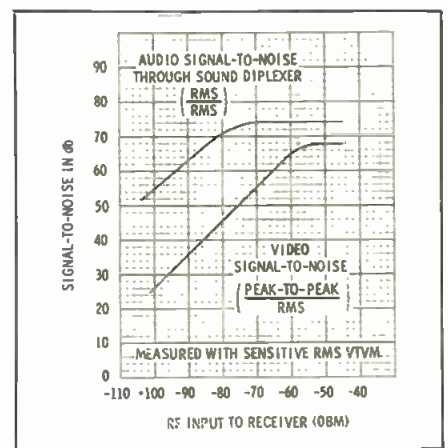

Fig. 2. Graph of STL microwave s/n ratio.
Initially, both the transmitting and receiving antennas are set for horizontally polarized directional patterns and pointed toward each other. Passive reflectors should initially be adjusted to a 45° angle (to the vertical) with the antennas optically pointed at the passive reflectors. With the antennas and reflectors installed to previously calculated angles, and when the exact azimuths and elevations between antenna sites have been determined, the transmitting and receiving antennas (and/or reflectors) should be traversed horizontally and vertically. The adjustments will become finer until maximum signal is indicated at the receiver site. The STL antennas will be accurately aligned when the signal-to-noise ratio is within 2 db of the predetermined value. Fig. 2 illustrates calculated signal-to-noise ratio figures.
7. Compare the measured S/N figures with the predetermined values shown in Fig. 2. If the measured S/N ratio is within 2 db, the antennas, which have been previously oriented in azimuth and elevation for maximum signal, are properly aligned.